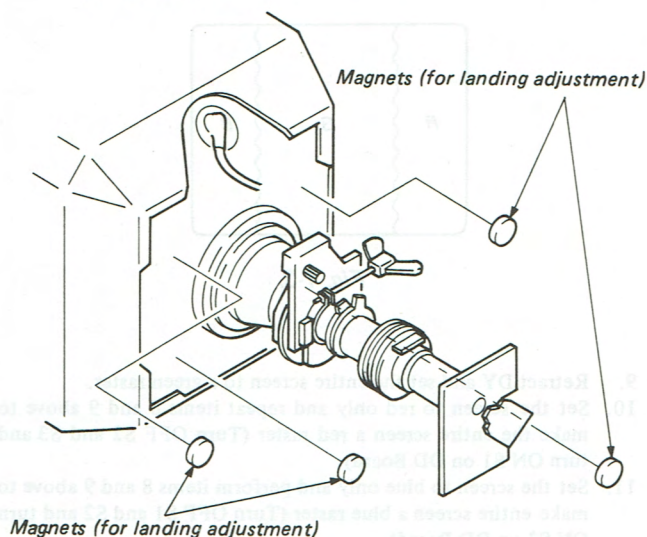

Fig. 1-5.
1. Attach magnets on the pannel side uneven color occurs as shown in Fig. 1-5.